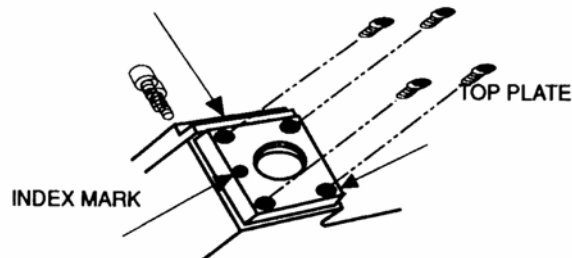

FIGURE 4
Remove the top vise jaws. The bottom vise jaws are secured by two #10-32 x 1/2" long socket head cap screws. Use a 5/32" Allen hex wrench to remove the screws. If you have difficulty accessing the bottom screw you may remove the top plate. See figure 4 below.
Reinstall the top plate with the (4) #6-32 x ½ screws flush with the top of the top plate- but do not tighten the four screws at this time. Remember to reinstall the top plate with its INDEX MARK in the same location it was before. See figure 4 above for reference.